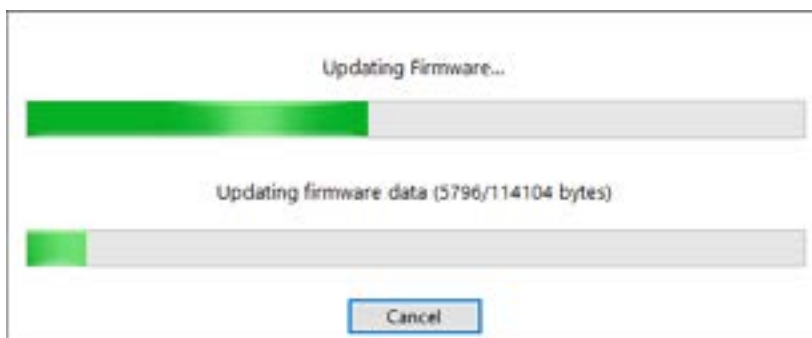
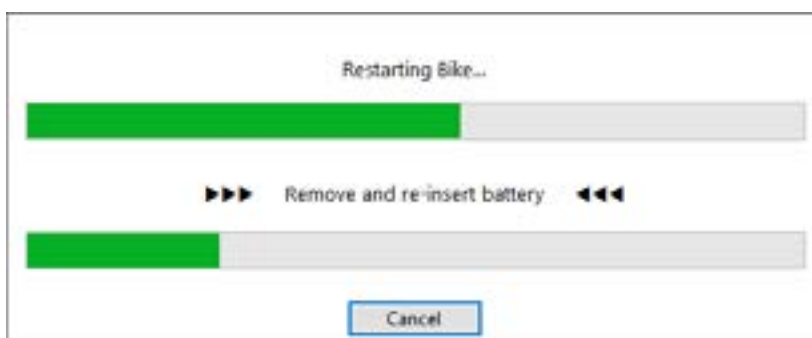

Figure 3.22 Auto-update – Firmware update
Figure 3.23 Auto-update – Bicycle restart
2. This is followed by a firmware update (Fig. 3.22). Once the update is complete, remove (for at least 5 seconds) and reinstall the battery in the bike (Fig. 3.23). This step is skipped with the control unit's firmware is current.